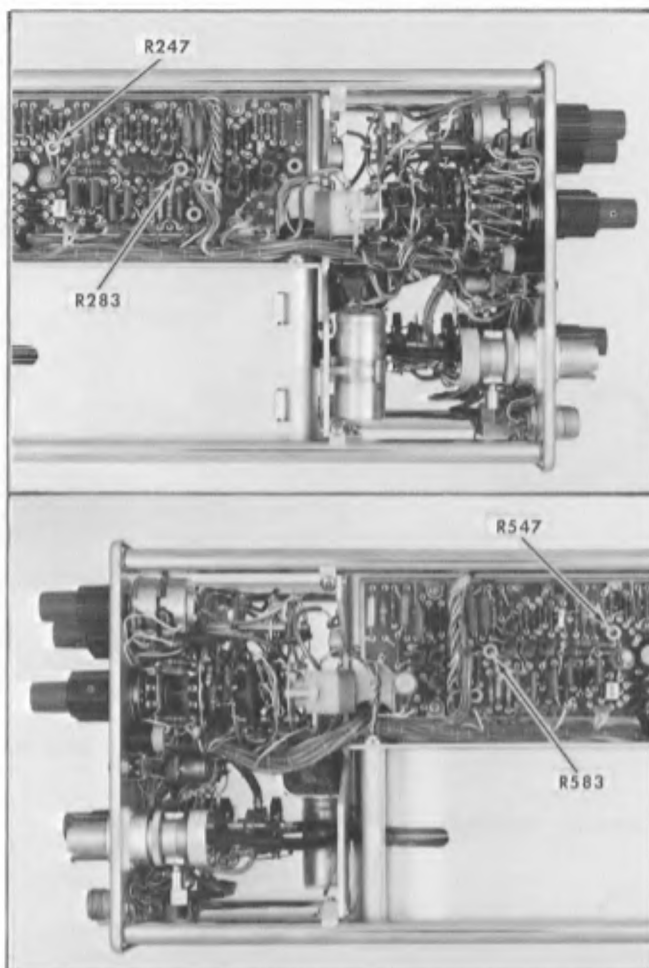

Fig. 8-20. Location of Smoothing Bal controls and Inverter Zero controls. Steps 13 and 14.
b. If the trace does shift vertically, note the trace position with the SMOOTH-NORMAL switch at NORMAL. Change it to SMOOTH and adjust the Smoothing Balance control, R247 (or R547 of Channel B) shown in Fig. 8-20, to move the trace back to its position when the switch was at NORMAL. Repeat this several times until there is no trace shift when the SMOOTH-NORMAL switch position is changed.
b. Change the Chan A INVERT-NORM switch to NORM and adjust the Chan A Inverter Zero control, R283 shown in Fig. 8-20, until the trace is again at the graticule center-line. Change the INVERT-NORMAL switch between its two positions and check that the trace remains at the same vertical position.
c. Repeat the above procedure for Chan B with the Display Mode switch at CHAN B, and adjust R583 shown in Fig. 8-20 in the same manner.